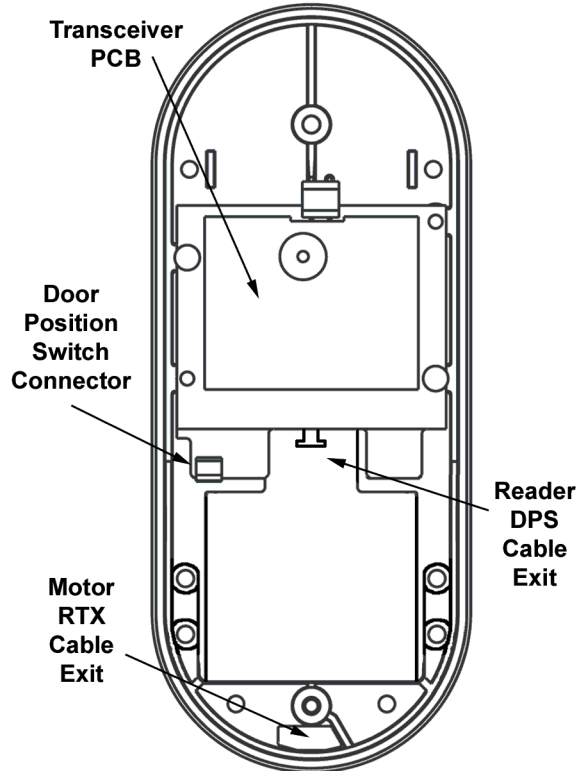

Figure 2-28 – Connecting the Door Position Switch Wires
- 2.10.1 Cut and strip the Door Position Switch wires so that they can be neatly dressed and connected to the Door Position Connector on the Transceiver PCB (Figure 2-28).
- 2.10.2 Connect the two Door Position Switch wires to the Door Position Connector on the Transceiver PCB (Figure 2-28). This connection is not polarized so either wire can go to either terminal.